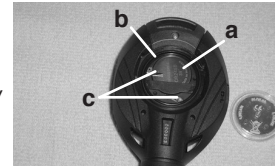

Fig. 109 - COVER REMOVED
- Using care not to damage the Battery Contacts (Fig. 109 c, d), slide the Battery up and out of the right side of the Battery Compartment.
- Orient the Retaining Bar across the lower portion of the Battery (as in Fig. 109) and carefully push it down into position.